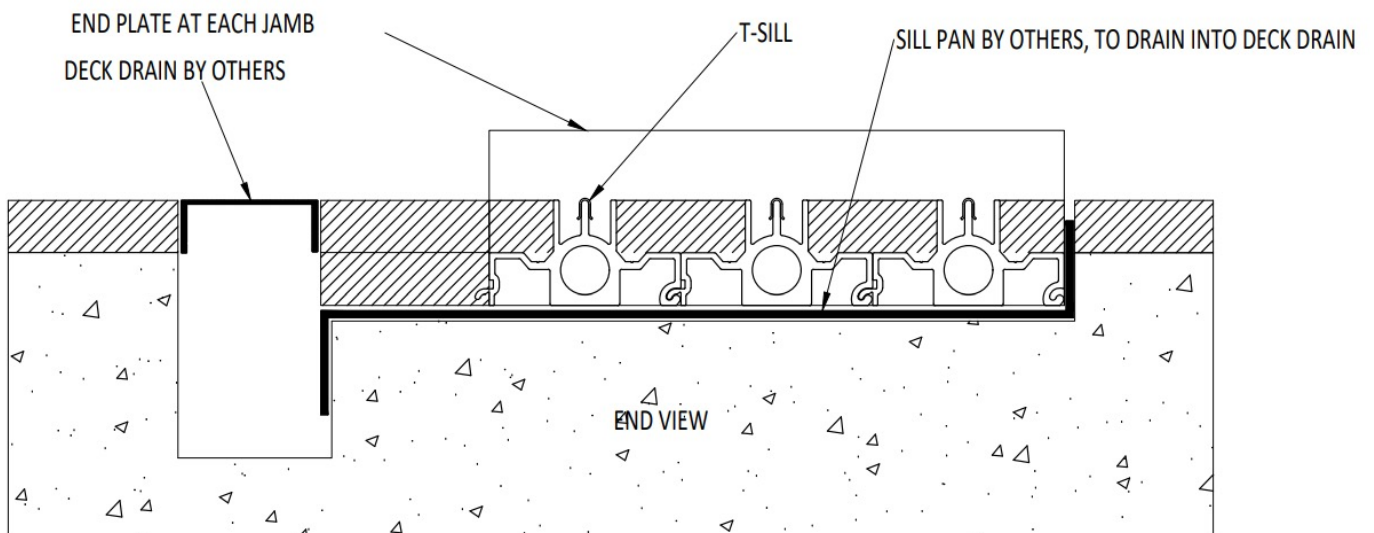

Figure 7
- Front weep with deck drain and pan by others (See Figure 7).
flow away from the sill. (See Figure 7). Skip to step 10.